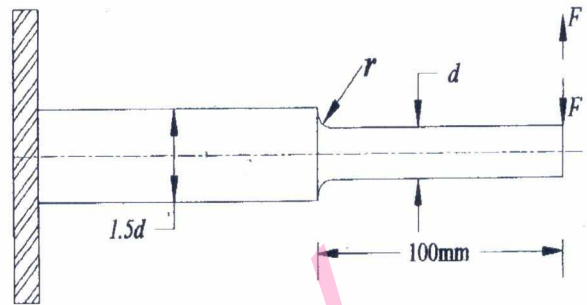

Fig.Q3(c)
- c. A stepped shaft of circular cross section shown in Fig.Q3(c) is made of SAE 1045 annealed steel. The load is repeated and completely reversed with a value of 100,000 N. Taking $\frac{r}{d} = \frac{1}{8}$, determine the diameter 'd' and the fillet radius 'r' so that the maximum stress will be limited to a value corresponding to a factor of safety 2. Consider the load factor = 1, surface finish factor = 0.85 and size factor = 0.9. (08 Marks)